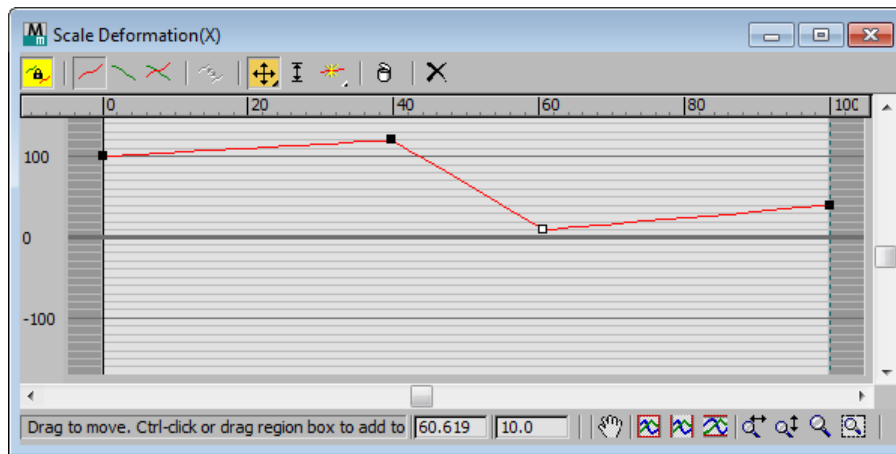

Figure 9-6 Two vertices added and moved in the *Scale Deformation(X)* dialog box
10. Pick the **Move Control Point** button and move this new vertex below the top (100%) line by nine lines until 10 is displayed in the right-hand text box at the bottom of the dialog box, **Figure 9-6**.